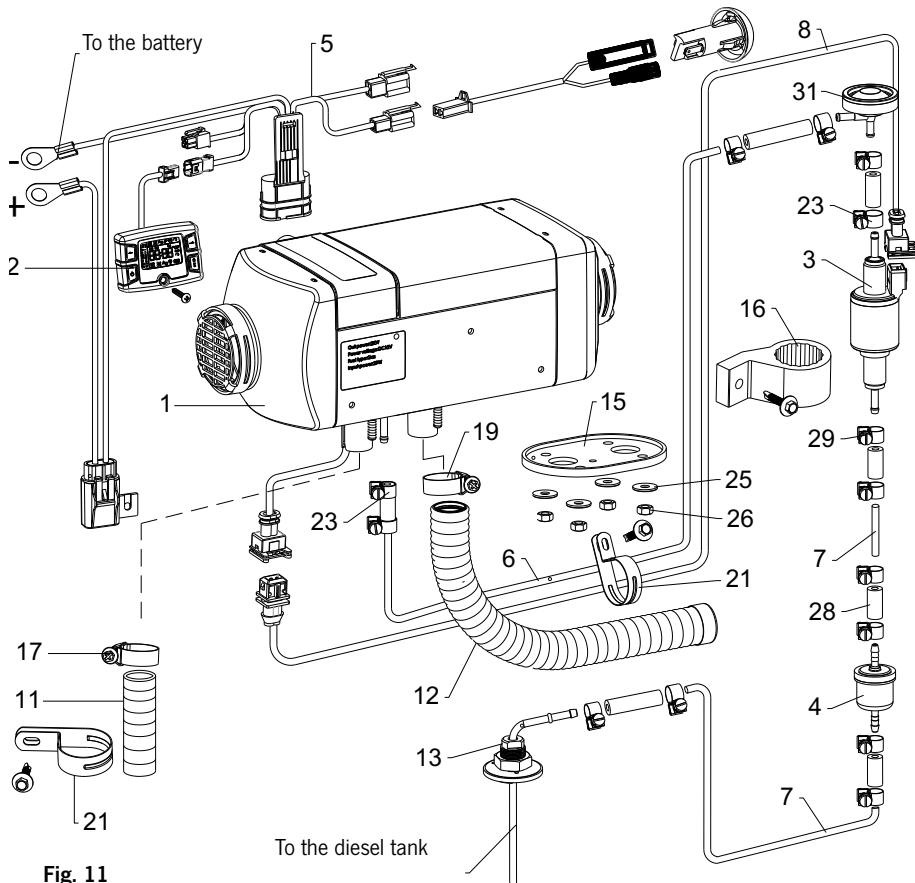

Fig. 11
26. VanHeat 2.0-DH | Product information | List of spare parts (see fig. 11)